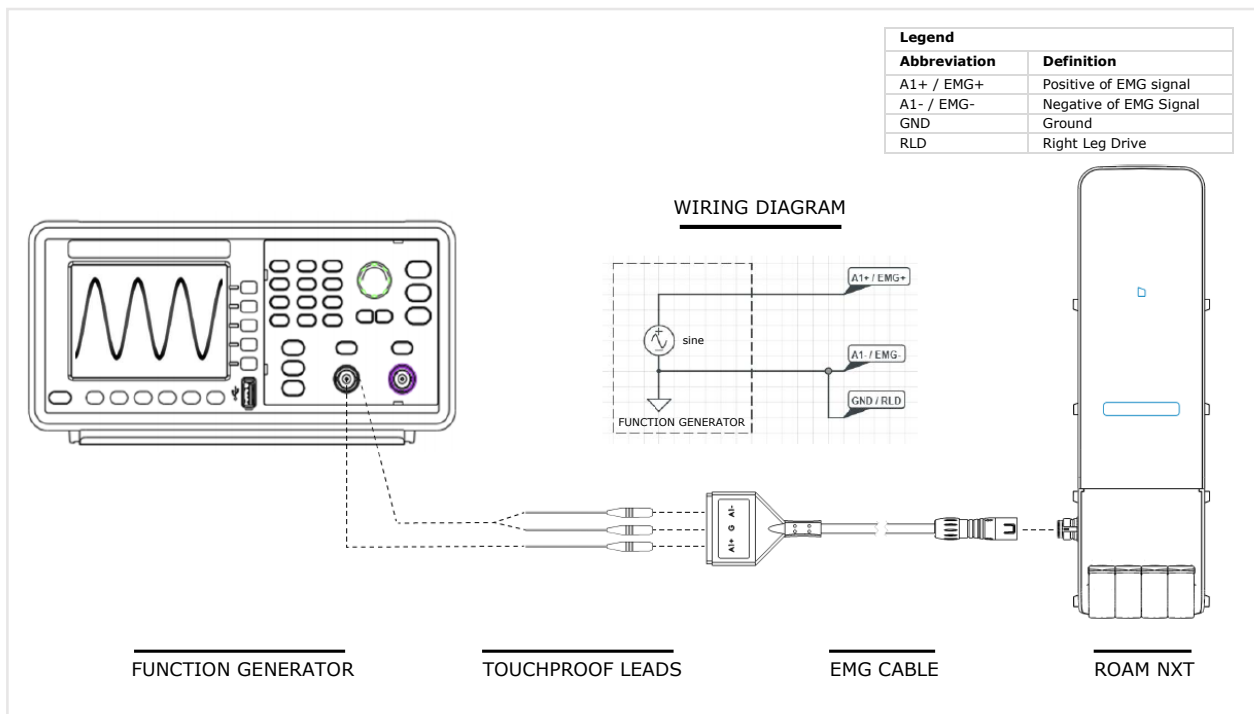

Figure 68: Wiring Diagram – EMG Calibration Verification with a Waveform Generator
- Insert touchproof connectors into the EMG input cable. Refer to Figure 68 for a visual representation of the signal generator and the Roam NXT setup.
- Once the signal generator and the Roam NXT are connected as displayed in Figure 68, begin generation of a sine wave with 10 Hz, and 200  $\mu$ V.